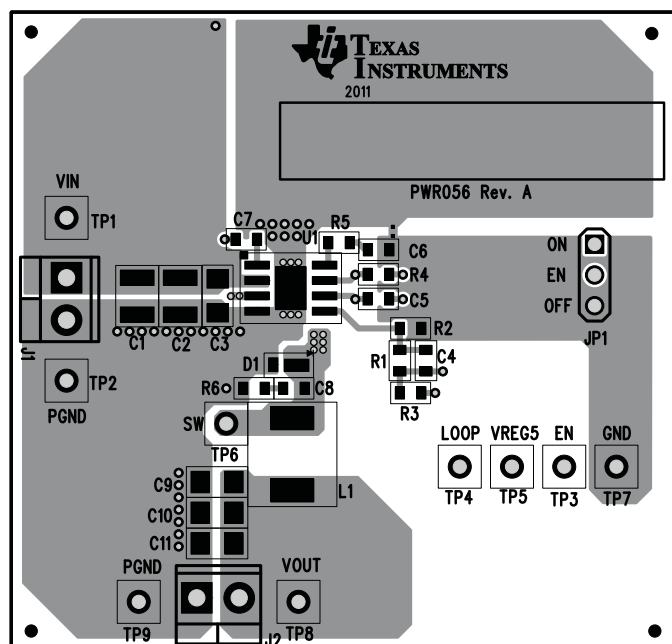
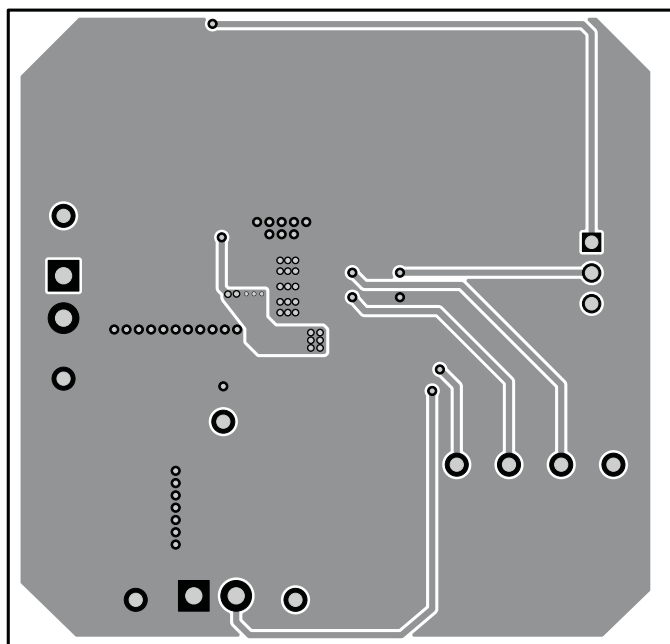

Figure 12. Top Assembly
Figure 16. Bottom Layer
The board layout for the TPS54229EVM-056 is shown in Figure 12 through Figure 16. The top layer contains the main power traces for VIN, VO, and ground. Also on the top layer are connections for the pins of the TPS54229 and a large area filled with ground. Many of the signal traces also are located on the top side. The input decoupling capacitors are located as close to the IC as possible. The input and output connectors, test points, and all of the components are located on the top side. An analog ground (GND) area is provided on the top side. Analog ground (GND) and power ground (PGND) are connected at a single point on the top layer near C6. The two internal layers are completely dedicated to power ground planes. The bottom layer is primarily power ground. A copper pour area on the bottom layer is used to connect the switching node (SW) to the output inductor and the boost capacitor. Traces also connect enable control jumper, EN, VREG5, and LOOP test points, and the feedback trace from VOUT to the voltage setpoint divider network.